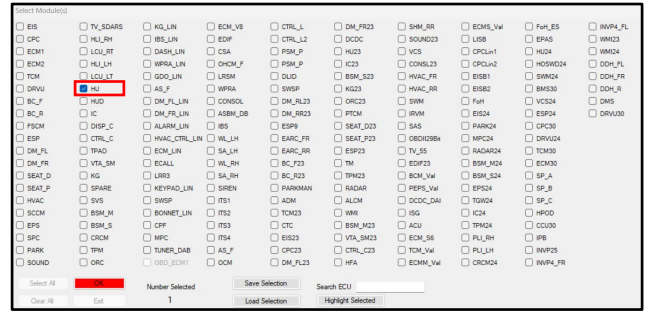

Figure 7
4. Select "HU" (refer to Figure 7).